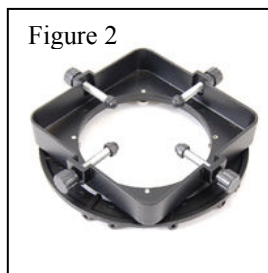

Figure 2
Step 1: Place the spring ring square side up on a large, flat surface as shown in Figure 2.